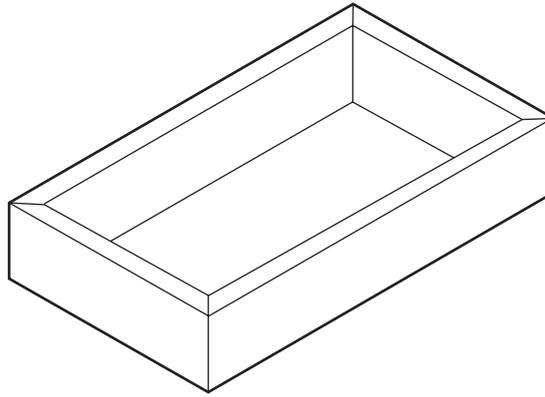

Fig. 8
- (e) Fig. 8 shows the plinth made from four pieces of wood joined at the corners by means of a glued mitre joint.